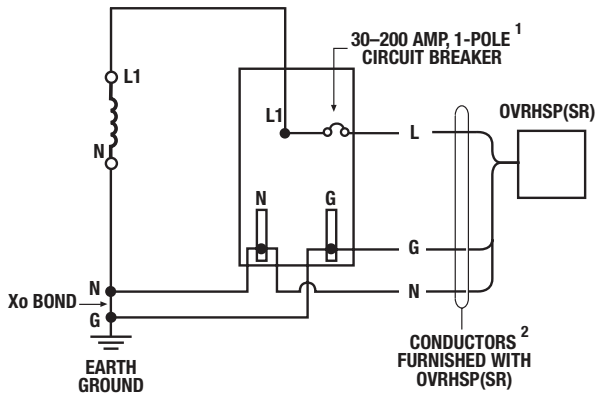

Figure 1: 1-phase, 2-wire
Figures 1–5 show the electrical relationship between OVRHSP(SR) series unit and these five basic service configurations: 1-phase, 2-wire; 2-phase, 3-wire; 3-phase Wye, 4-wire; 3-phase Delta, 3-wire and 3-phase High-Leg Delta, 4-wire.